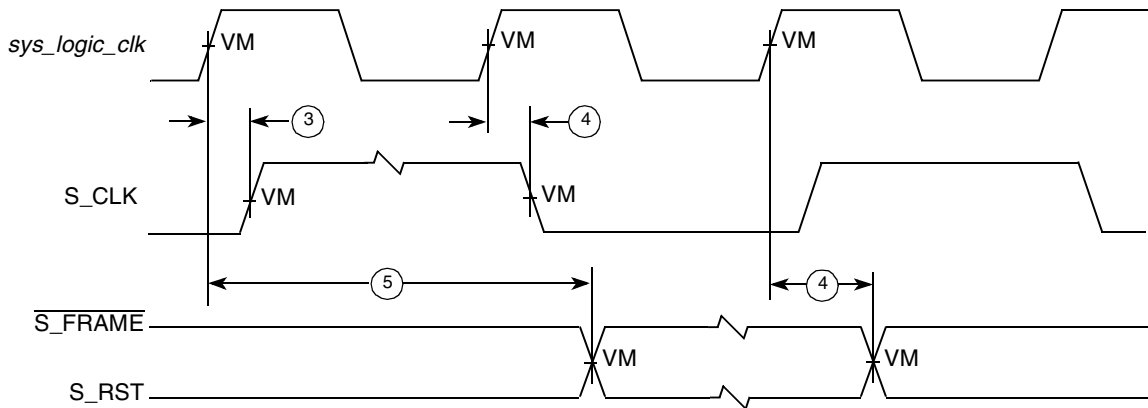
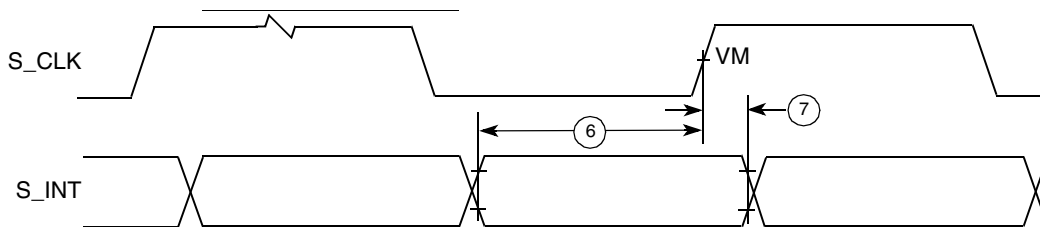

Figure 18. PIC Serial Interrupt Mode Output Timing Diagram
Figure 19. PIC Serial Interrupt Mode Input Timing Diagram
- S\_RST,  $\overline{S\_FRAME}$ , and S\_INT shown in Figure 18 and Figure 19, depict timing relationships to *sys\_logic\_clk* and S\_CLK and do not describe functional relationships between S\_RST,  $\overline{S\_FRAME}$ , and S\_INT. The *MPC8245 Integrated Processor Reference Manual* describes the functional relationships between these signals.